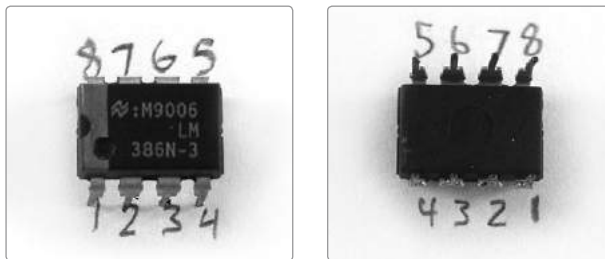
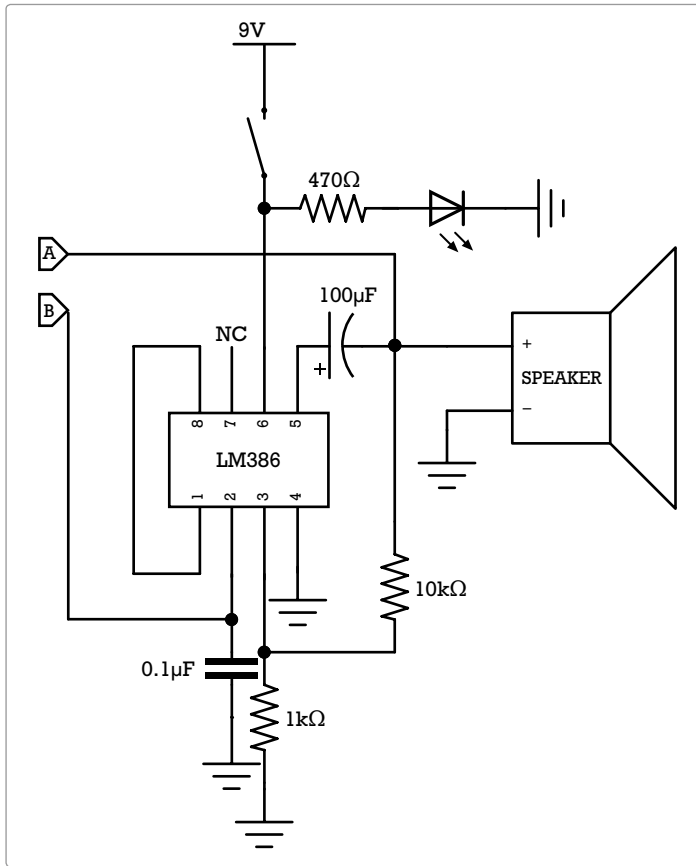

FIGURE 6-3: An LM386 with its legs numbered, in live-bug position (left) and dead-bug position (right).
FIGURE 6-4: *The circuit diagram for the Droid Voicebox*
Next, number the IC's legs counterclockwise, beginning with the lower-left leg, as shown in Figure 6-3 (left). Note that in this orientation, the IC corresponds to the IC illustrated in the circuit diagram (see Figure 6-4). This is also how you view the IC if you're looking at a finished circuit but not how you look at the IC during many parts of the build, especially when soldering. Flip over the IC so that the notch that was on the left is now on the right and all the pins are sticking up like legs (i.e., dead-bug style). Now renumber the legs, going clockwise from the lower right, as shown in Figure 6-3 (right). This dead-bug view is how you see the IC while soldering and what you have to keep in mind throughout the build. You might want to label the second set of numbers *dead bug orientation* and keep it as a reminder on your workbench. Remember: you only solder to the dead bug.
It's time to look at our schematic (shown in Figure 6-4). If this is your first time seeing a circuit diagram, don't fret. The thing to keep in mind is that a circuit diagram is a lot like a subway or bus route map: it doesn't show you how things are actually laid out in the physical world but instead shows you how the parts functionally connect to each other; in other words, it highlights the *scheme* that makes the circuit work. Figure A-28 on page 353 shows which component each symbol denotes.
Throughout this book, I've done my best to make the circuit diagrams as clear as possible, which means, among other things, that I've avoided having lines cross unnecessarily. For the sake of clarity, I've followed the convention that crossed lines with a dot at the junction represent actual electrical connections. For example, see the right edge of Figure 6-4, where the speaker, a capacitor, a resistor, and a lead all come together. There's a dot at the junction because those elements are all wired together. Lines that simply touch without a dot—like the line connecting the body contact labeled *A* to the speaker, which crosses the line going from pin 6 to the power supply and switch—don't represent a connection.
You'll note on the circuit diagram (Figure 6-4) that things get a little complicated between the IC's pin 5 output and the actual speaker. That's why we're running the negative leg of the cap over to its own column of holes—so we have plenty of room to wire up those connections.
Step 12 Now for power! Take out your pushbutton SPST switch and the 9-volt battery clip. If you haven't already stripped and tinned the ends of the battery clip leads, do so now, removing about 1/4-inch of insulation. Then solder the red lead to one of the two terminals on your SPST switch. Now, cut a length of wire (probably less than 4 inches long, depending on your case), strip 1/4-inch of insulation from either end, tin both ends, and solder one end to the other switch terminal. The remaining end of this wire runs to the first open hole in the column connecting to pin 6 of the IC socket, as shown in Figure 6-14. Remember that, viewed from above, IC pins are numbered counterclockwise starting from the lower left (check Figure 6-3 for clarification)—so pin 6 is the third pin from the left on the IC's top row as viewed from the top.